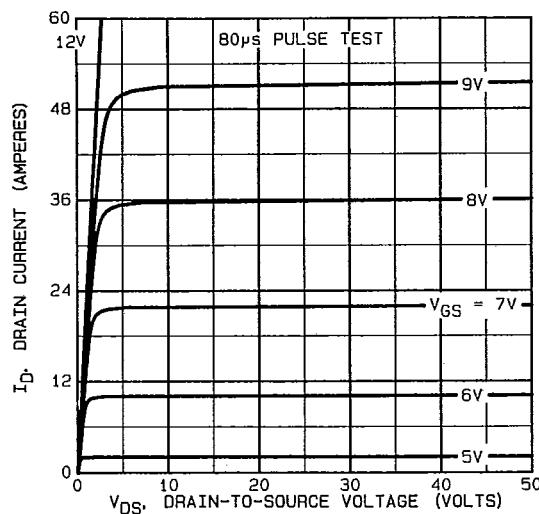

Fig. 13 — Typical Output Characteristics
① See Figures 13 through 29 for pre-radiation curves.